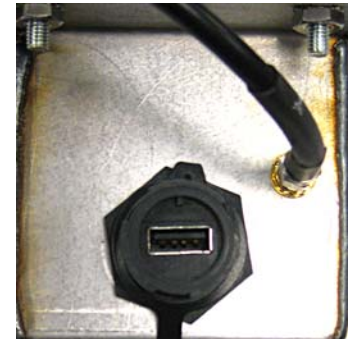

Figure 5
8. Unscrew the USB port cover (see Figure 5).